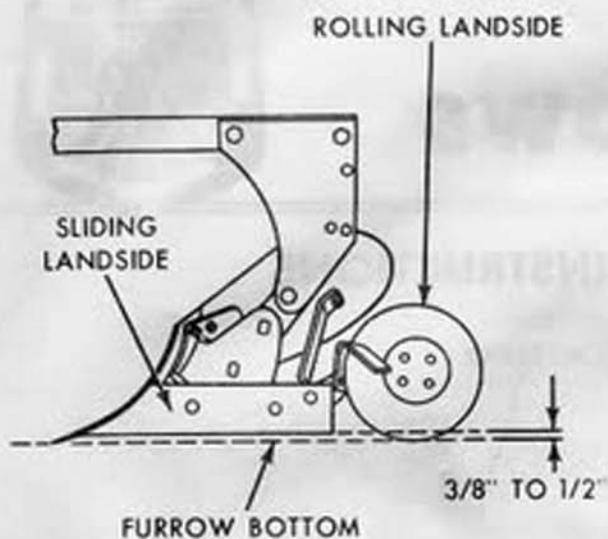

Figure 2 - Adjusting Rolling Landside
The rolling landside should be set from 3/8 to 1/2 inch below the sliding landside as shown in Figure 2. To adjust, loosen the two plow bolts which hold the rolling landside arm to the landside, then raise or lower the assembly to the proper position by means of the adjusting set screw under the arm. Tighten all bolts and nuts securely.
**Pitch Control:** With the rear bottom at the desired depth and the rolling landside set  $3/8$  to  $1/2$  inch below the sliding landside as shown in Figure 2, adjust the tractor upper link until the rolling landside runs at the bottom of the furrow wall. This indicates that the plow bottoms are operating at the optimum pitch.